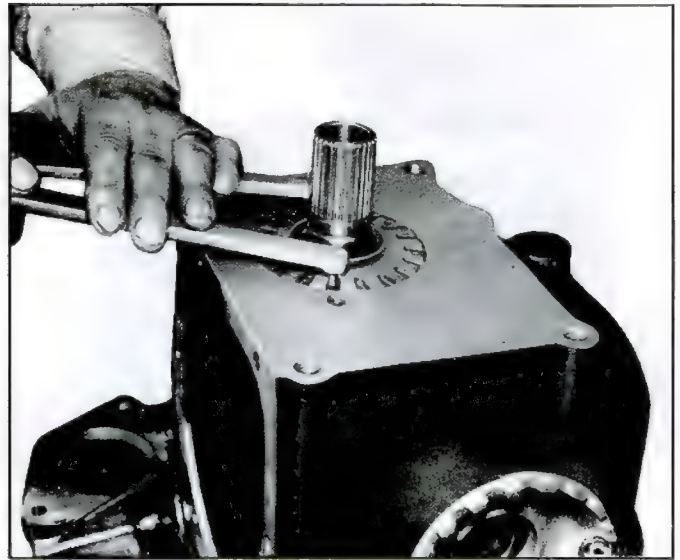
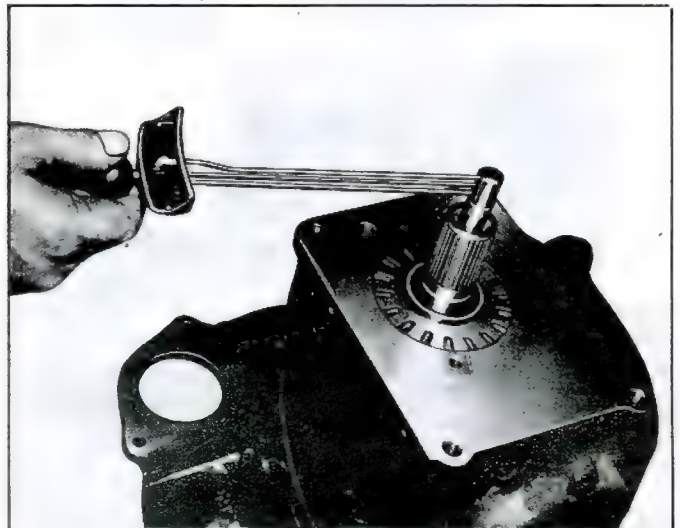

Fig. 47—Tightening Pinion Bearing Adjusting Sleeve with J-972
Fig. 48—Measuring Pinion Turning Torque Using J-8362 Adapter and Torque Wrench J-5853
4. Tighten pinion bearing adjusting sleeve with J-972 (fig. 47) until the pinion bearings are carried into contact with their races, then back off pinion adjusting sleeve slightly to eliminate any pinion bearing preload. At this point, measure the turning torque created by the side bearing preload at the pinion using J-8362 Adapter and an inch pound torque wrench such as J-5853. Record this reading (example, 8 in. lbs.). Then further tighten the pinion bearing adjusting sleeve to increase the initial turning torque by 4-6 inch-pounds with used bearings or 9-11 inch-pounds with new bearings. Using the 8 inch-pound initial turning torque from our example, the final total turning torque measured at the pinion (fig. 48) would be 12-14 inch-pounds with used bearings or 17-19 inch-pounds with new bearings.